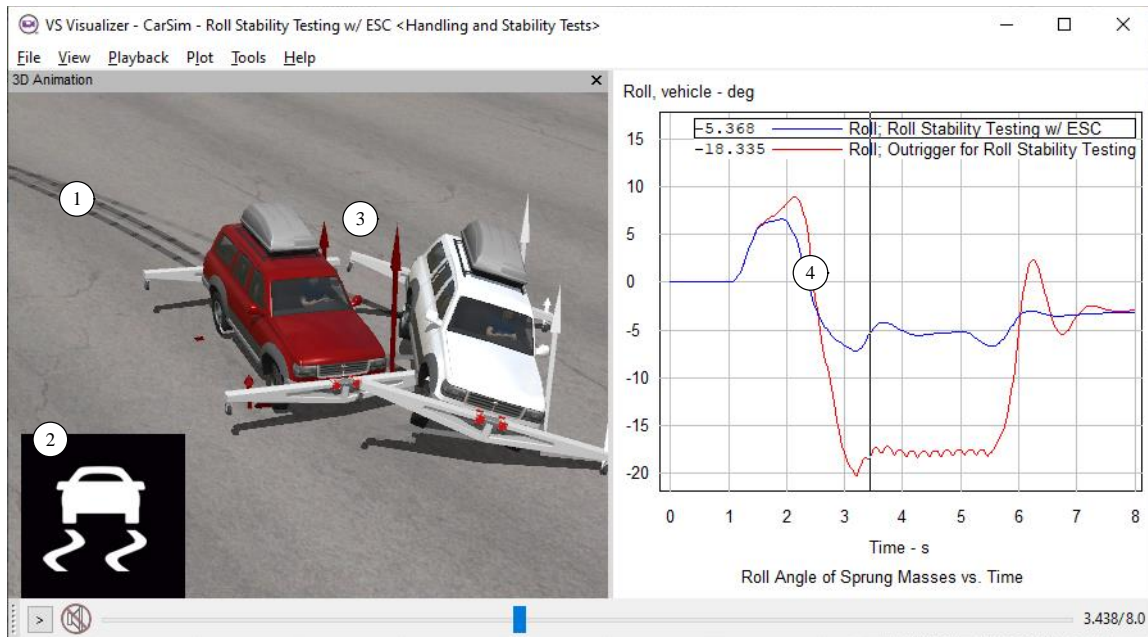

Figure 12. VS Visualizer shows overlays of multiple runs, heads-up displays, and skid marks.
VS Visualizer supports the overlay of both animation and plots (3), (4) (Figure 12), effectively demonstrating the difference in results. A virtual heads-up display (HUD) option (2) is available for emulating driver alerts and showing calculated math model output. Visual effects such as skid marks are also supported (1).